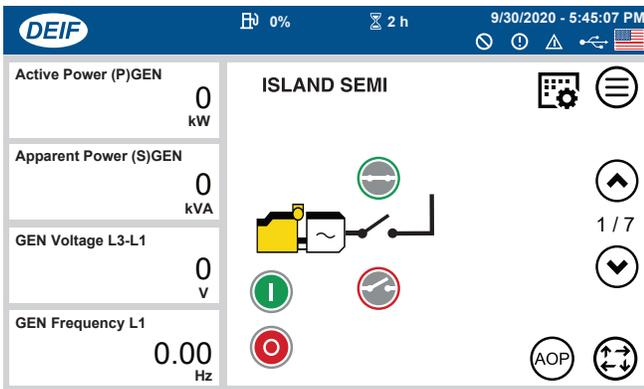

Figure 130. Home Screen (1 of 7)
15. Verify that the **Home** screen (1 of 7) is displayed. See Figure 130.
- 23. Repeat steps 13–15 to return to the **Home screen** (Figure 130).
- 30. Perform steps 13–15 to return to the **Home screen** (Figure 130).